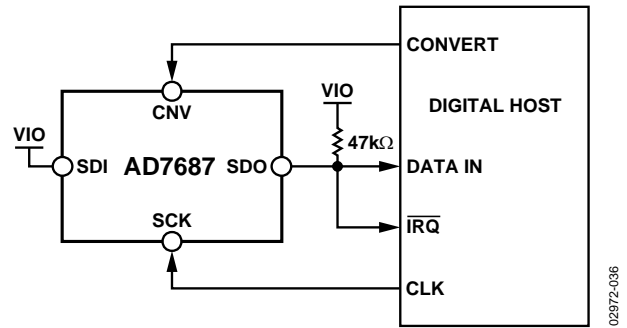
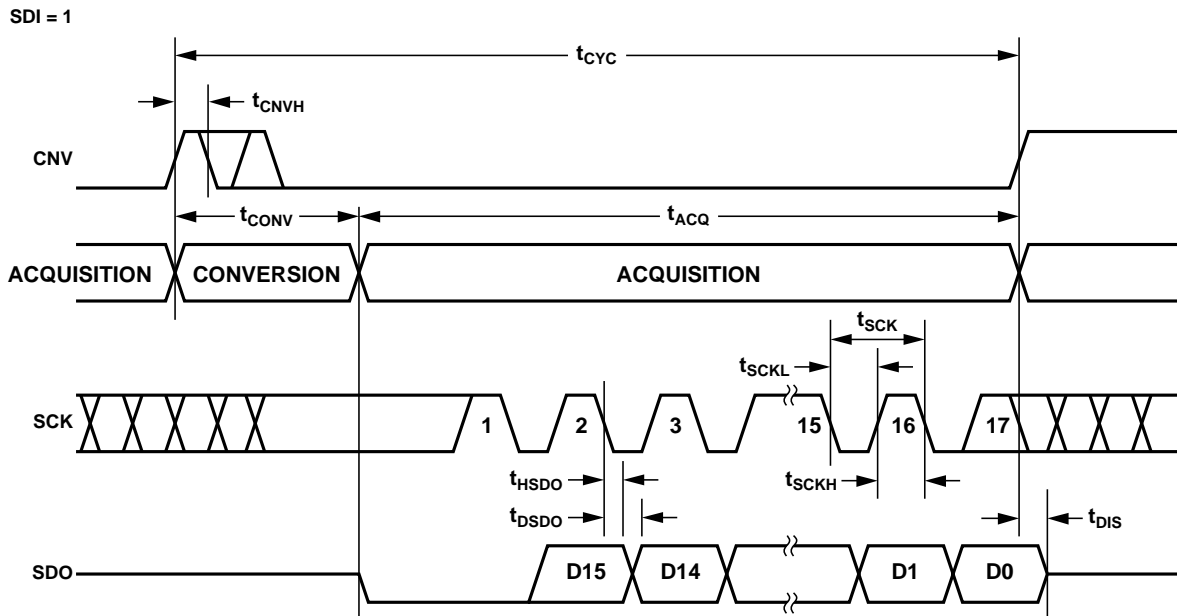
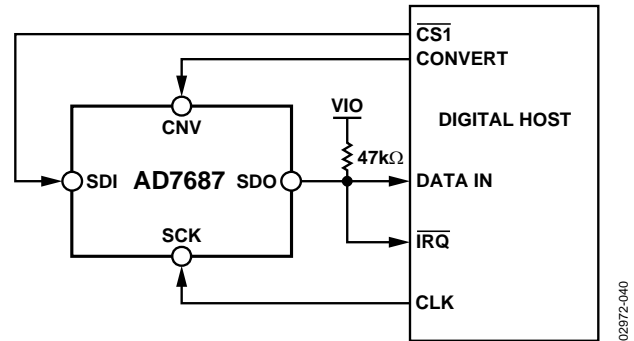
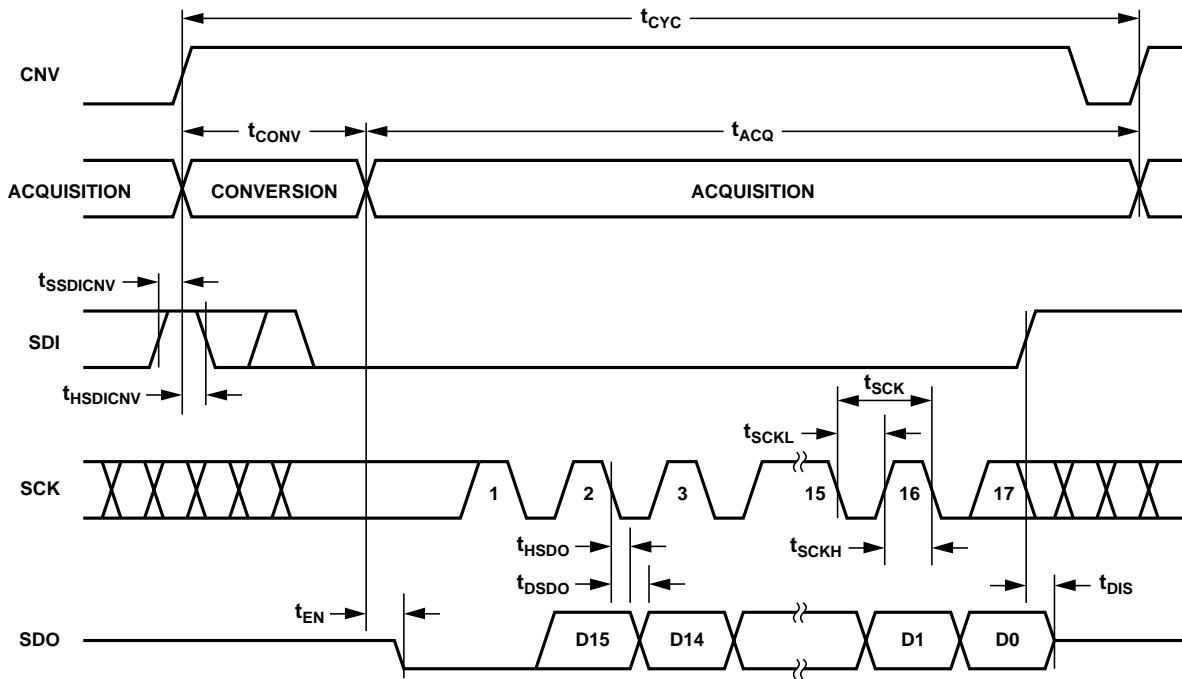

Figure 37.  $\overline{\text{CS}}$  Mode 3-Wire with BUSY Indicator Connection Diagram (SDI High)
Figure 38.  $\overline{\text{CS}}$  Mode 3-Wire with BUSY Indicator Serial Interface Timing (SDI High)
Figure 41. CS Mode 4-Wire with BUSY Indicator Connection Diagram
Figure 42. CS Mode 4-Wire with BUSY Indicator Serial Interface Timing
- In the  $\overline{CS}$  mode, if CNV or SDI is low when the ADC conversion ends (Figure 38 and Figure 42).
The connection diagram is shown in Figure 37 and the corresponding timing is given in Figure 38.
The connection diagram is shown in Figure 41 and the corresponding timing is given in Figure 42.